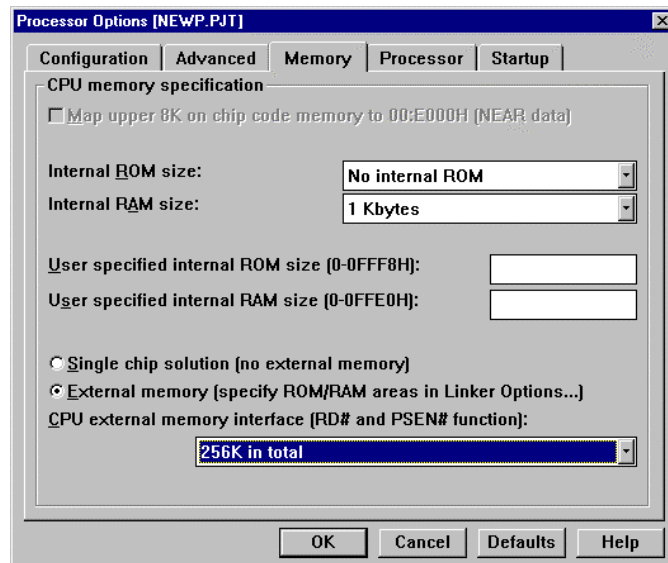

Figure 10 Processor Options - II
- In the Memory tab of the Processor Options (see Figure 10) you specify how the CPU is configured with regards to internal ROM/RAM as well as the external memory interface (RD# and PSEN# functions). For the 8x930 Family Evaluation Board, the USB controller is a ROM-less part and has 1K of internal RAM. The external memory interface is configured for using 18 address lines (A0-A17), so the processor addresses 256KB as one linear space from 0-3FFFFH. In the Linker Options you can now specify the external ROM and RAM areas within the 256KB range.